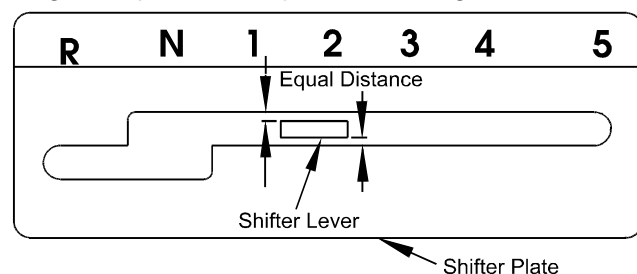

FIGURE 5
- b) Shift lever to second gear and check alignment of lever in slot of shifter plate. Clearance between top of lever and the top of the slot should be about equal to the clearance between bottom of the lever and the bottom of the slot (See figure 5). If it is not, remove lever and bend it slightly to adjust. DO NOT bend lever while it is attached to transmission. Reinstall lever and tighten hardware.